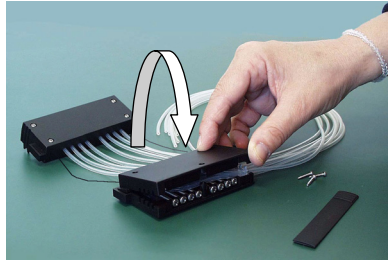

Figure 5-40. Replacing the cover of the upper part of the dispensing cassette
12. Replace the upper part cover of the dispensing cassette carefully (Figure 5-40).